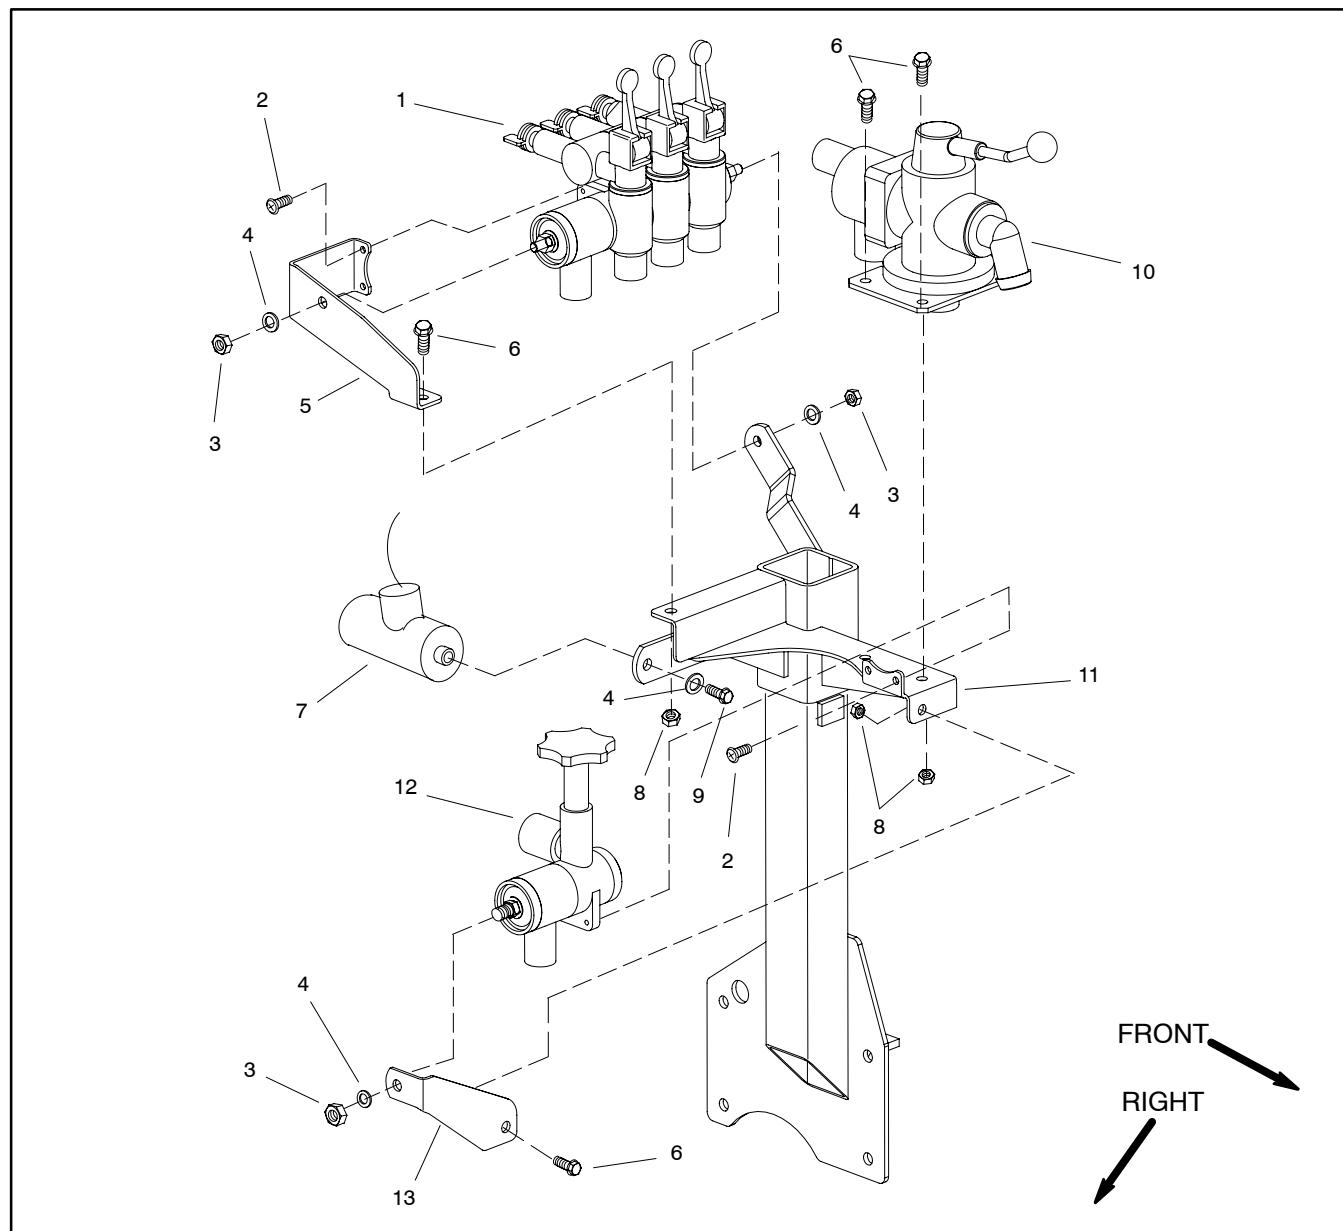

Figure 20
Removal (Fig. 20)
4. Remove spray control components as required using Figure 20 and 22 as guides.
Assembly (Fig. 20)
1. Install spray control components using Figures 20 and 22 as guides.